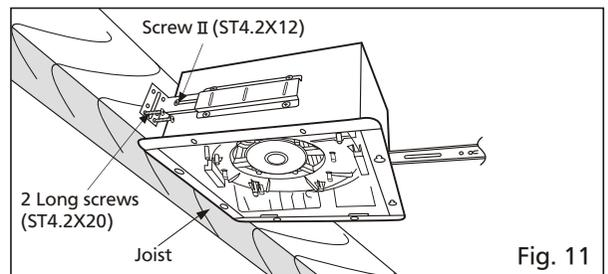

Fig. 11
- Secure the suspension bracket to joists by using long screws (ST4.2X20) and secure it to fan body by using screw II (ST4.2X12) in vertical direction. (Fig.11)
- Secure the fan body to joists by using long screws (ST4.2X20). (Fig. 11)